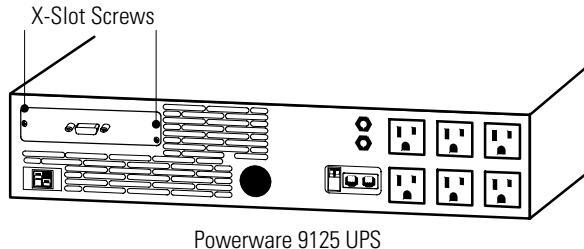

Figure 5. Removing the X-Slot Cover or X-Slot Module
1. Remove the X-Slot cover (or existing X-Slot module) on the UPS rear panel. Retain the screws (see Figure 5).